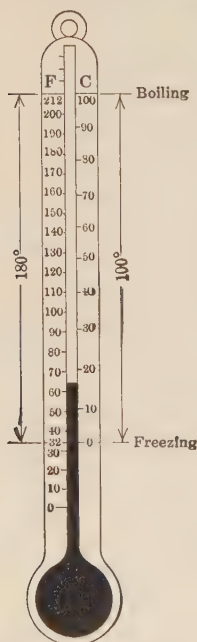

FIG. 31. — Comparison of Fahrenheit and Centigrade scales.
31. Comparison of Fahrenheit and Centigrade readings. The freezing point of water is 0° Centigrade and 32° Fahrenheit, Fig. 31. The boiling point of water is 100° Centigrade and 212° Fahrenheit. It is therefore seen that 1 Centigrade